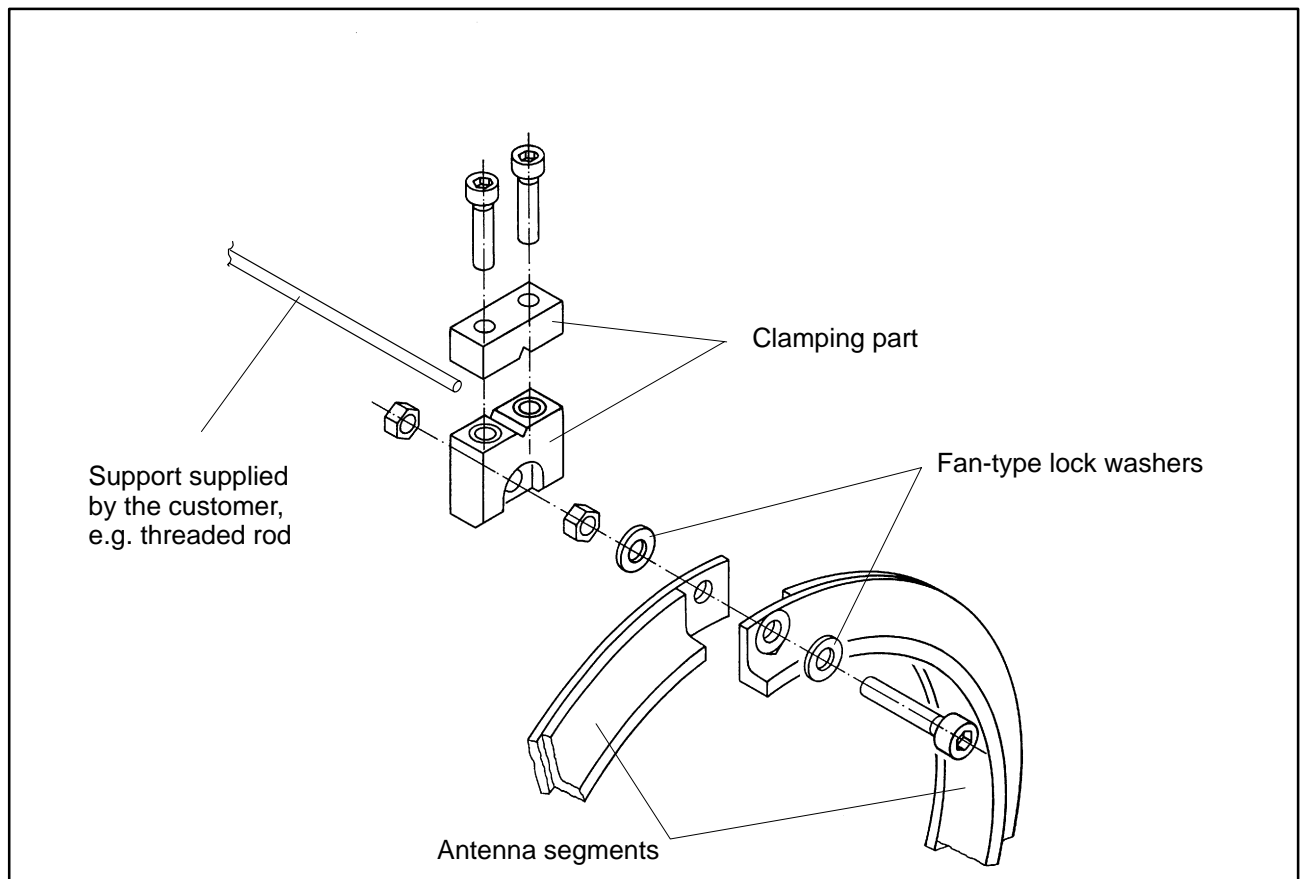

Fig. 4.4: Mounting of clamping part
2. Fasten the clamping part with the enclosed screws as shown in Fig. 4.4. It is essential to use the new fan-type locking washers.